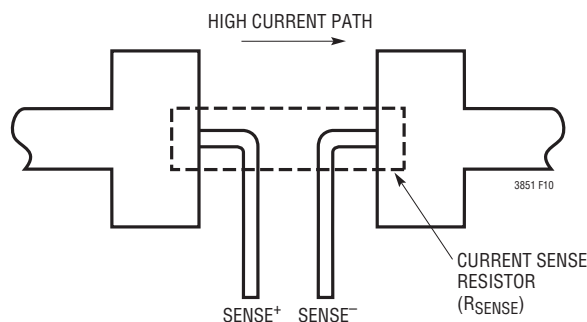

Figure 10. Kelvin Sensing R_{SENSE}
3. Are the SENSE^- and SENSE^+ leads routed together with minimum PC trace spacing? The filter capacitor between SENSE^+ and SENSE^- should be as close as possible to the LTC3851. Ensure accurate current sensing with Kelvin connections as shown in Figure 10. Series resistance can be added to the SENSE lines to increase noise rejection and to compensate for the ESL of R_{SENSE} .